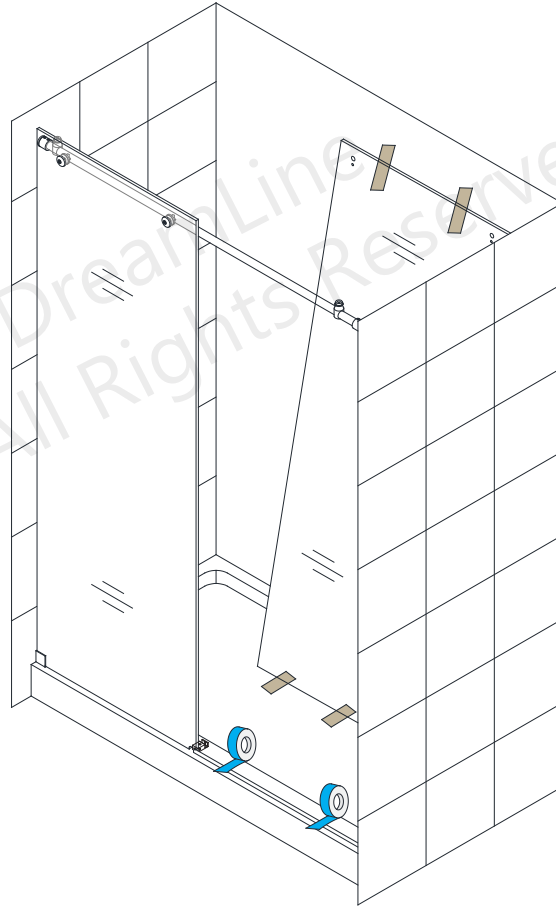

Fig 13
13. Secure the **Anti-Splash Guard (#15)** to the threshold with several pieces of painter's tape to hold it in position and tight to the threshold until the silicone fully cures. **(Fig 13)**